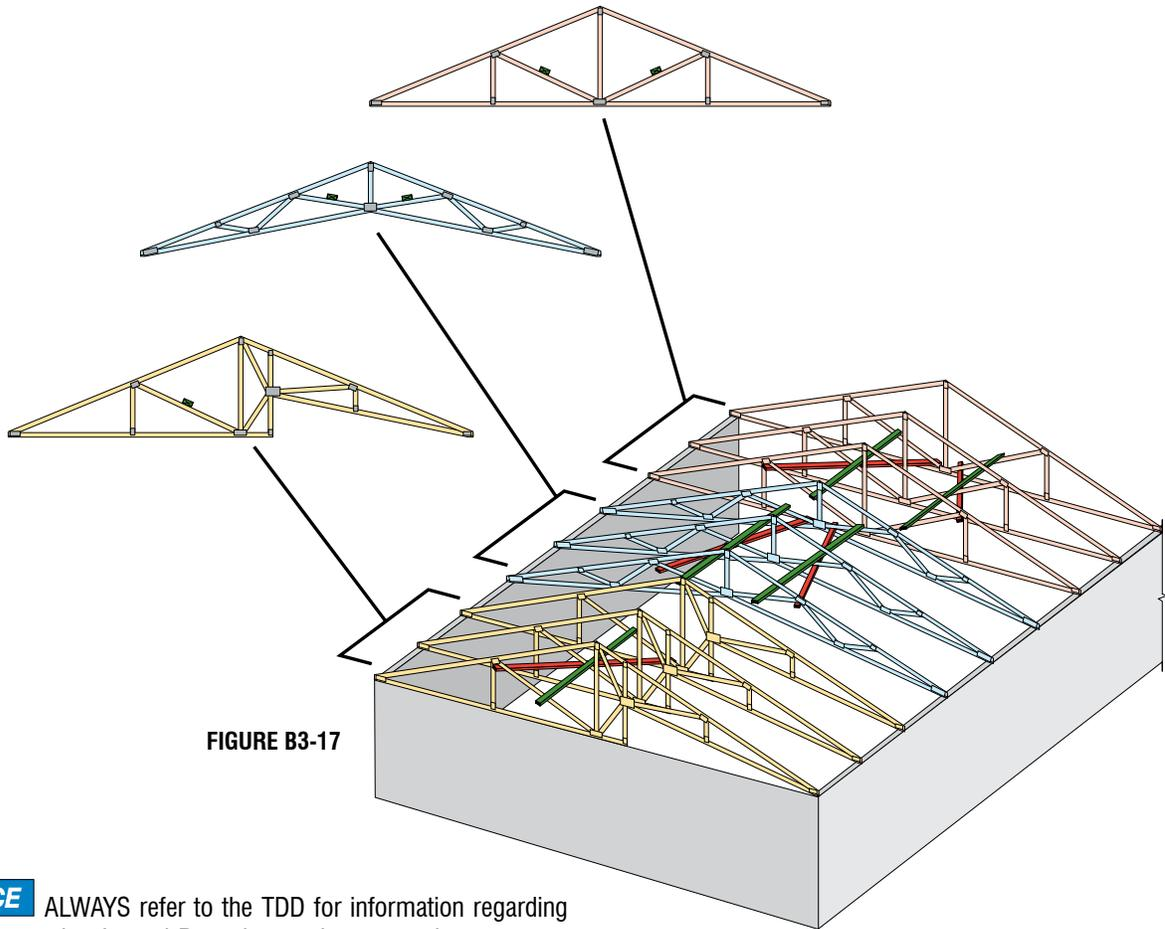

FIGURE B3-17
- Diagonal Bracing combined with Lateral Restraint can also be used with small groups of Trusses. Figure B3-17 provides an example of a Building containing nine Trusses with three different configurations. Each Truss configuration contains web members that require Lateral Restraint, and these web members are in different locations for each configuration. To ensure the webs of these Trusses are properly braced, install Lateral Restraints (shown in green) and Diagonal Bracing (shown in red) within each group of Trusses. Extend the Diagonal Bracing from the Top Chord to the Bottom Chord of the adjacent Trusses. Attach the Diagonal Bracing to the Web of the middle Truss near the location of the CLR and to each intersecting Truss. This provides the rigidity that prevents the Webs and the CLR from displacing laterally.